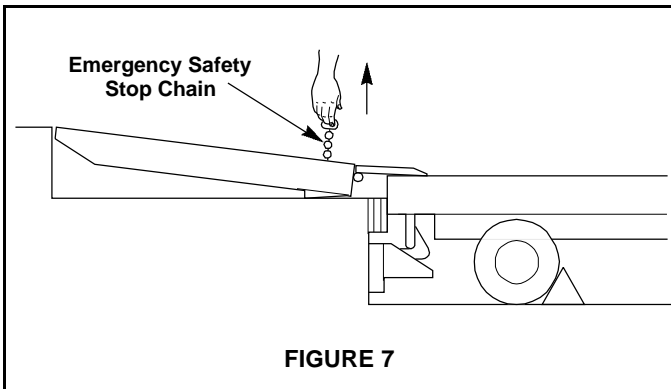

FIGURE 7
2. Walk onto the platform to the front edge. Pull and hold the emergency safety stop chain to retract the emergency safety stops. This will permit the platform to lower until the lip contacts the truck bed. See Figure 7.